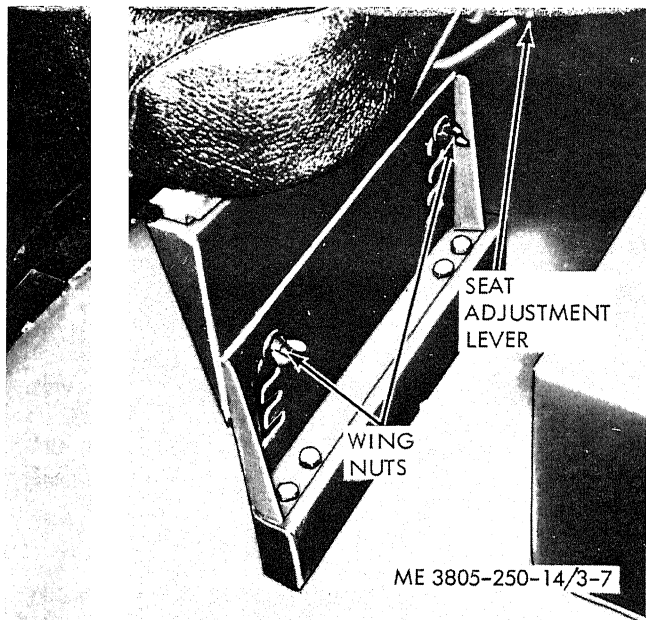

Figure 3-7. Seat adjustment.
a. To adjust the seat vertically, loosen two wing nuts (fig. 3-7) on each side of the seat. Move the seat up or down as required. The seat is adjustable four inches in the vertical direction.
b. To adjust the seat horizontally depress the seat adjustment lever (fig. 3-7) and move the seat forward or backward, as required.